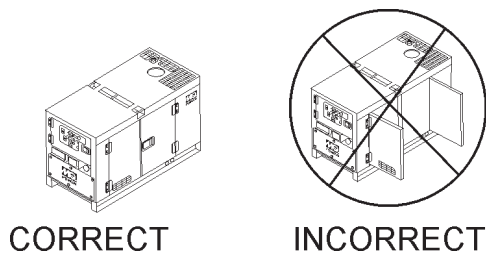

Figure 29. Engine Enclosure Doors
- Close all engine enclosure doors (Figure 29).